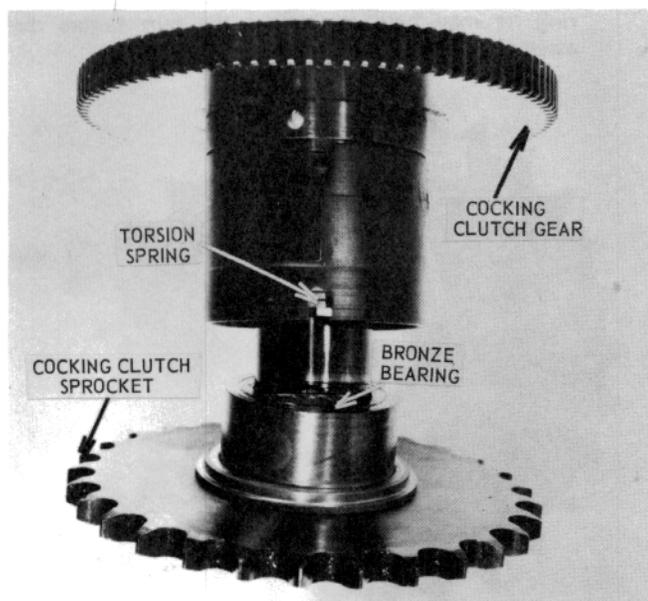
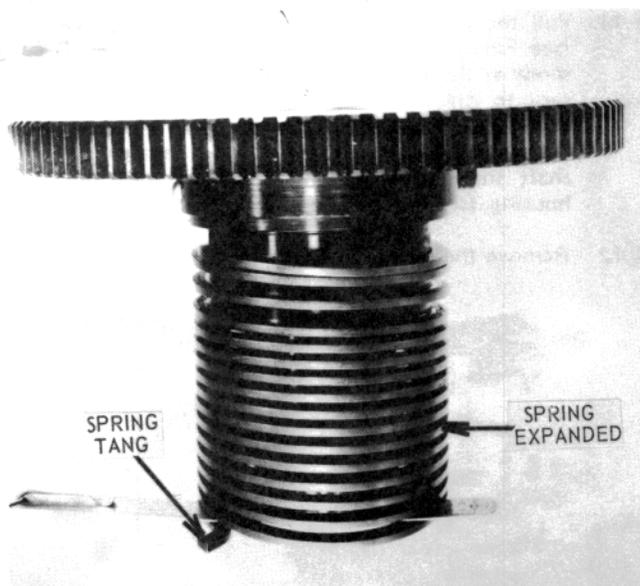

Figure 55 – Cocking Clutch Sprocket and Cocking Clutch Gear Separation
Figure 57 – Torsion Spring Expanded
3.1.3 Match mark cocking clutch and cocking clutch gear if the gear is removed from the cocking clutch (see Figure 55).
- 3.1.5 Expand the spring and thoroughly clean it with solvent (see Figure 57). If spring is broken replace entire clutch. Reassemble the spring and gear with the sleeve (see Figure 55). Tilt sleeve over tab side of spring. Reach in and grasp spring tab with a pair of pliers, pull to extend the spring, push sleeve down over the spring and line up sleeve notch with spring tab.
- 3.1.6 Lubricate bronze bearing in the cocking clutch sprocket before reassembly (see Figure 55).